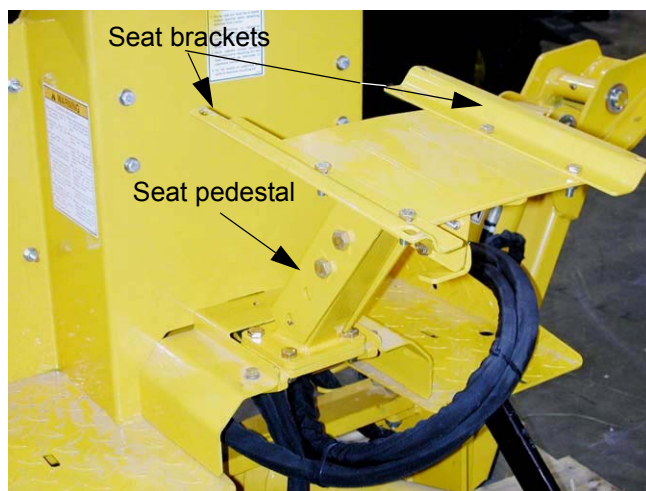

Figure 1.33
- 1.33. Mount the seat pedestal to the backhoe. Tighten the bolts using a pair of 17mm wrenches. See Figure 1.33.